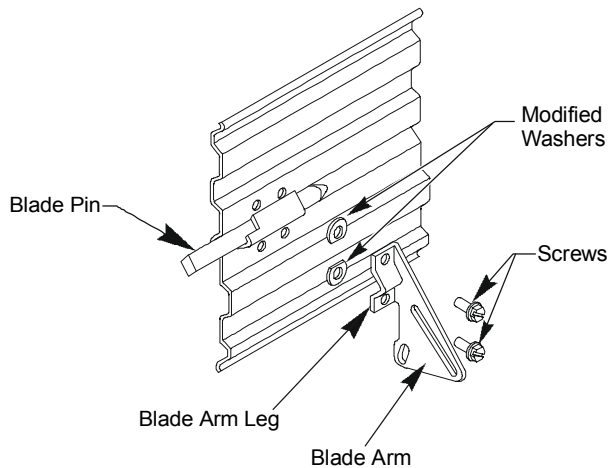

Figure 25: Attaching to 16-Gauge Blades
- at a 2-1/8 inch radius (position "D" marked on the arm). The location of the rod connection should be positioned as shown in Figure 25 for standard value and extended-performance dampers.